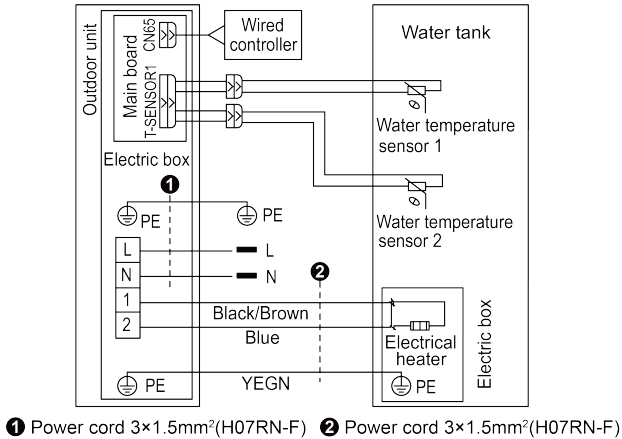

Figure 9-1 External Wiring
- (1) Unscrew the screw on the connection box cover on the right side panel of the outdoor unit to open the connection box cover. Figure 9-1 shows the external wiring.